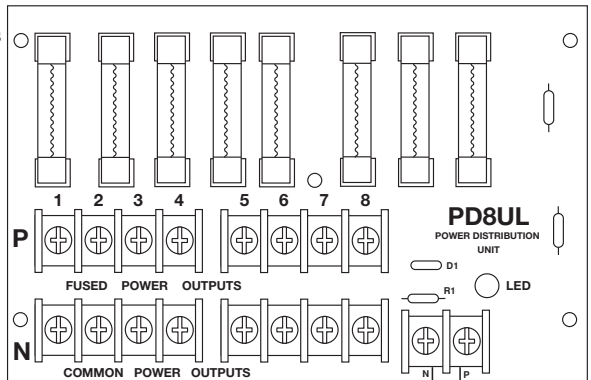

Fig. 1
3. Connect the desired power supply output to the terminals marked [INPUT] (Fig. 1).
Note: If using DC voltage, left terminal is NEG. (-) and right terminal is POS. (+) (Fig. 1).